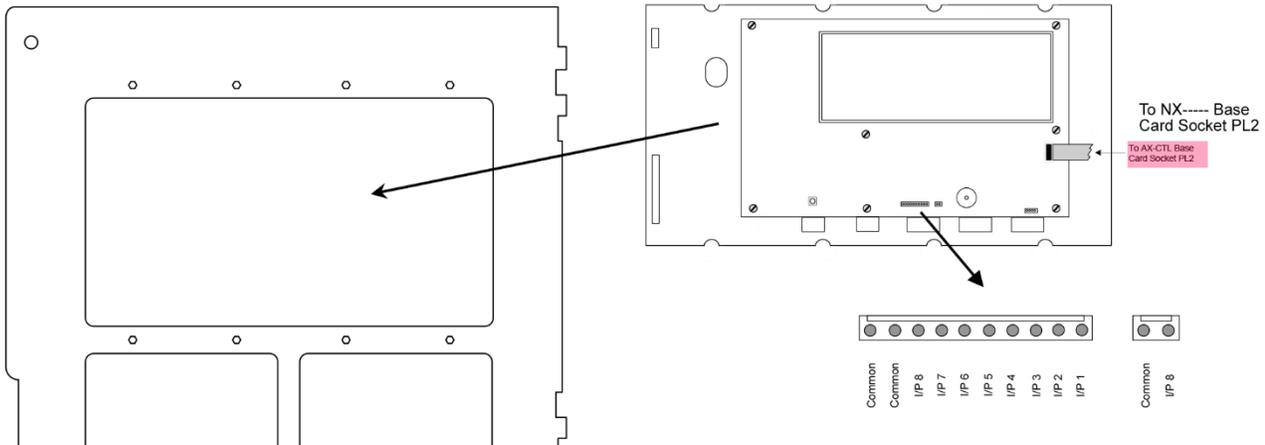

Figure 20 - NX-ACS-DSP Installation and Inputs
On the back of the NX-ACS-DSP alphanumeric graphical display is a 10-pin and 2-pin (duplicated common and input 8) header, providing eight (8) programmable switch inputs, which can be utilized for special application monitoring and control functions. Switch inputs can be programmed to monitor normally open or normal closed contacts depending upon installation need (see figure 20).
- ⊘ Unplug the flat ribbon cable attached to the NX-FACP base card and remove the seven (7) screws holding the NX-ACS-DSP alphanumeric graphical display to its front metal faceplate (see figure 20).